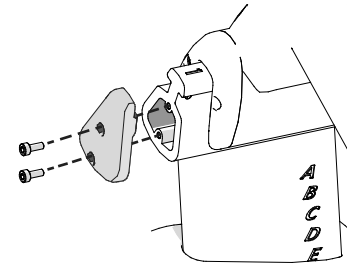

Figure 11
3. Attach the handlebar post end cap using two bolts ⑨ (Figure 11) and fully tighten with the hex key ⑦.